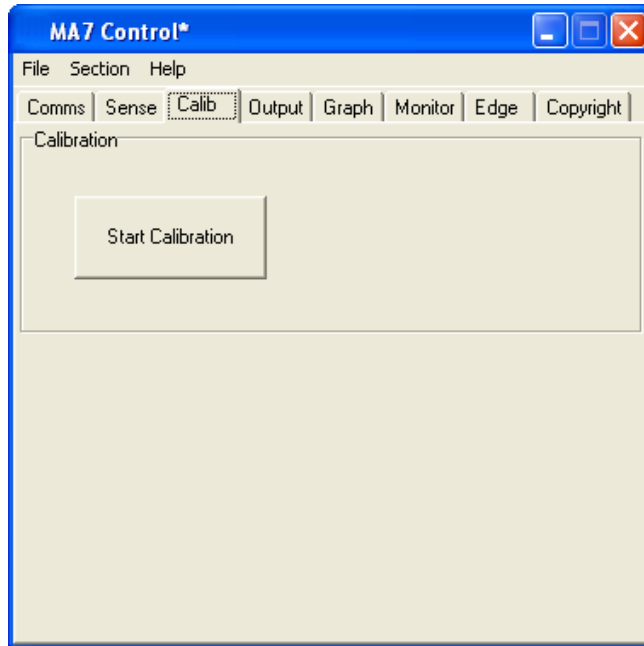

Fig 5
1. Select the **Calib** tab as shown below (Fig 5), click the '**Start Calibration**' box.